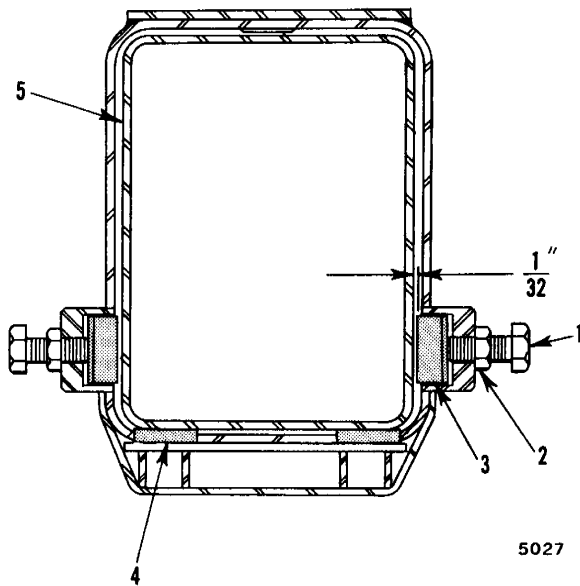

Figure 3-22. Wear Pad Adjustment
4. Loosen jam nuts (1) from capscrews (2) positioning wear pads (3). Tighten capscrews until nylatron pads touch boom section, then back off one-eighth turn to obtain approximately 1/32 inch clearance. (Refer to Figure 3-22.) Tighten jam nuts.